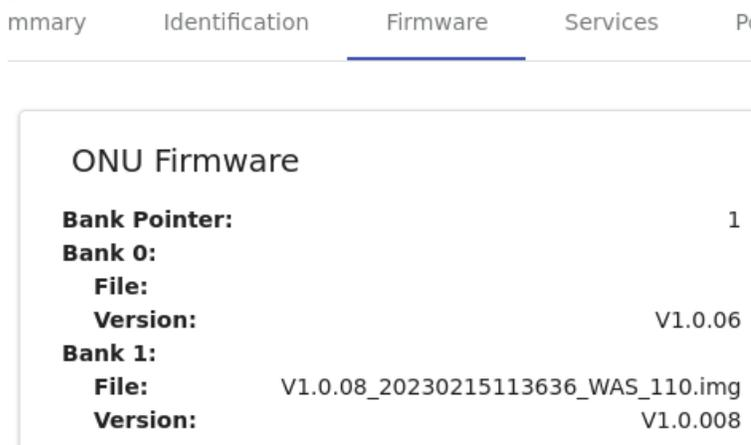

Figure 3.1-3
- As shown in Figure 3.1-3, Go back to Network -> Topology to locate where the ONU is, then go to -> Firmware. Click "Edit"